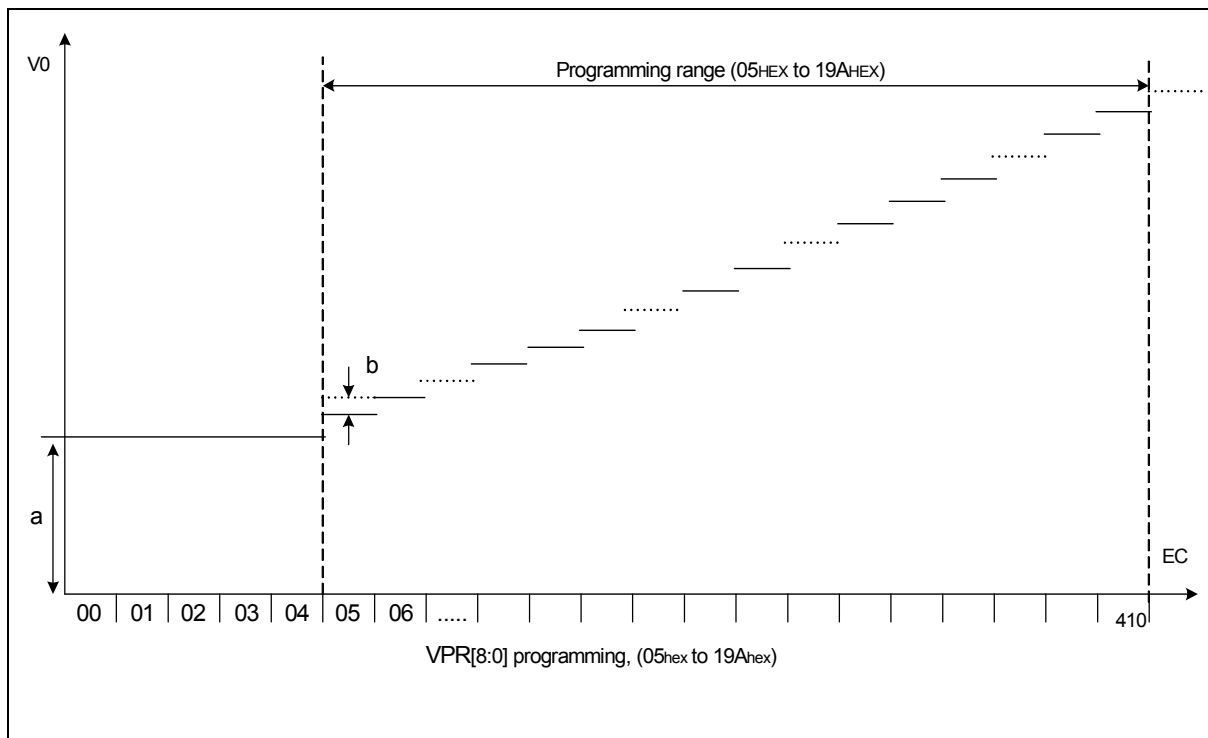

Fig. 7.10.2  $V_0$  programming range
The VPR[8:0] value must be in the  $V_0$  programming range as given in Fig.7.10.2. Evaluating equation (1), values outside the programming range indicated in Fig.7.10.2 may result.